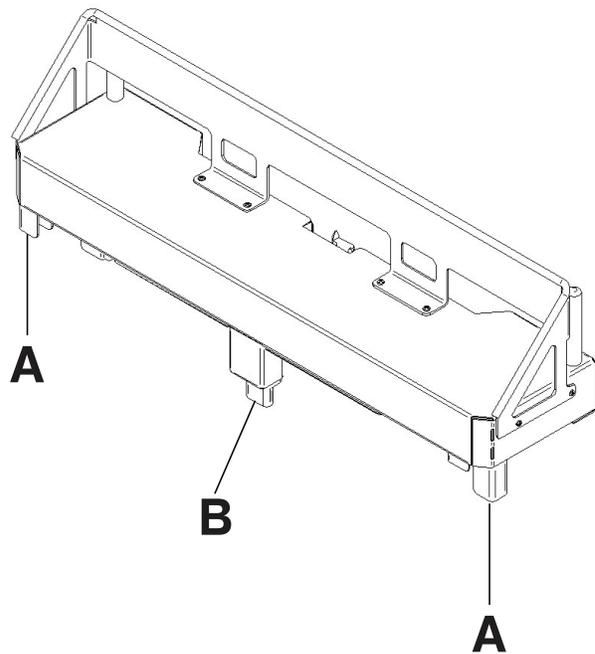

Figure 70: Attaching the optional bed extender
3. Insert the optional bed extender legs (A) and the footboard connector (B) onto the foot end of the product (Figure 70 on page 74).